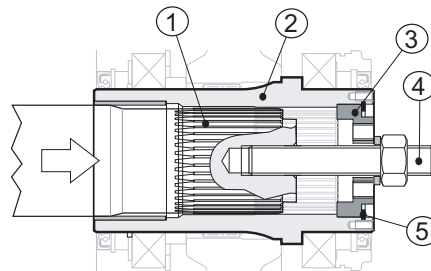

Fig. 18
Now insert the plate (pos. 3) then the inner retaining ring (pos. 5) securing the plate (pos. 3). Now when you tighten the threaded rod nut, the machine shaft will abut with the end plate (see Fig. 18 (p. 27)).